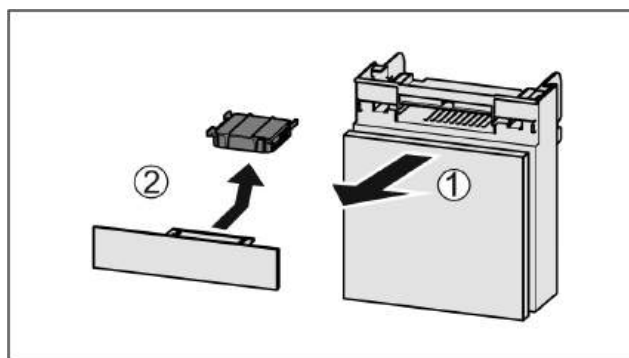

Fig. 143
- ▶ Pull out the compartment Fig. 143 (1).
- ▶ Remove the carbon filter Fig. 143 (2).